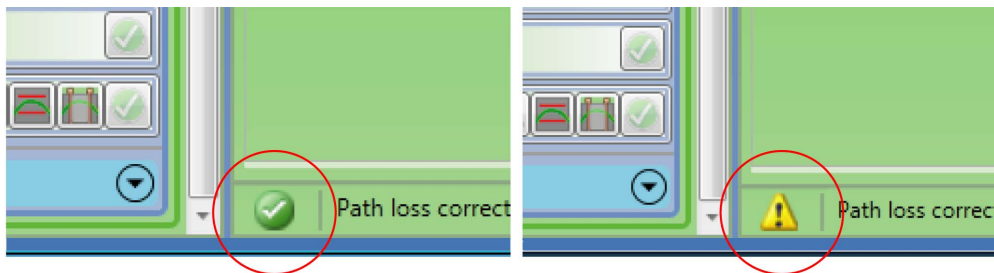

Figure 5-7. Error Status Indicators
2. Check for error reports. If the green check mark symbol is not displayed, click the symbol to open the error report. See Figure 5-7. Possible errors include "Cannot